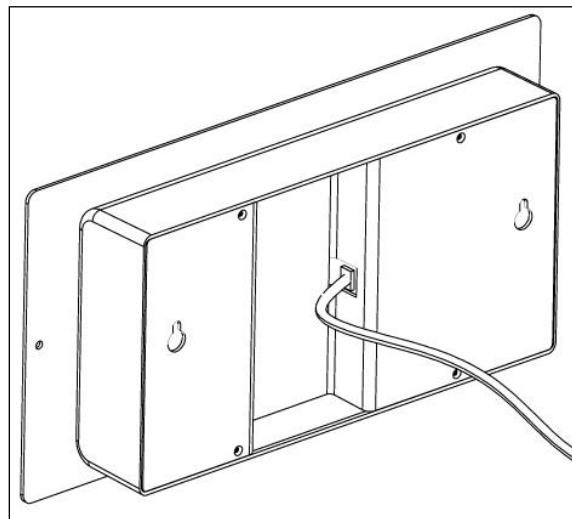

Figure 12: Data Cable Installation
7. Install the data cable in the rear of the clock as shown in Figure 12. The clock is now ready for installation.